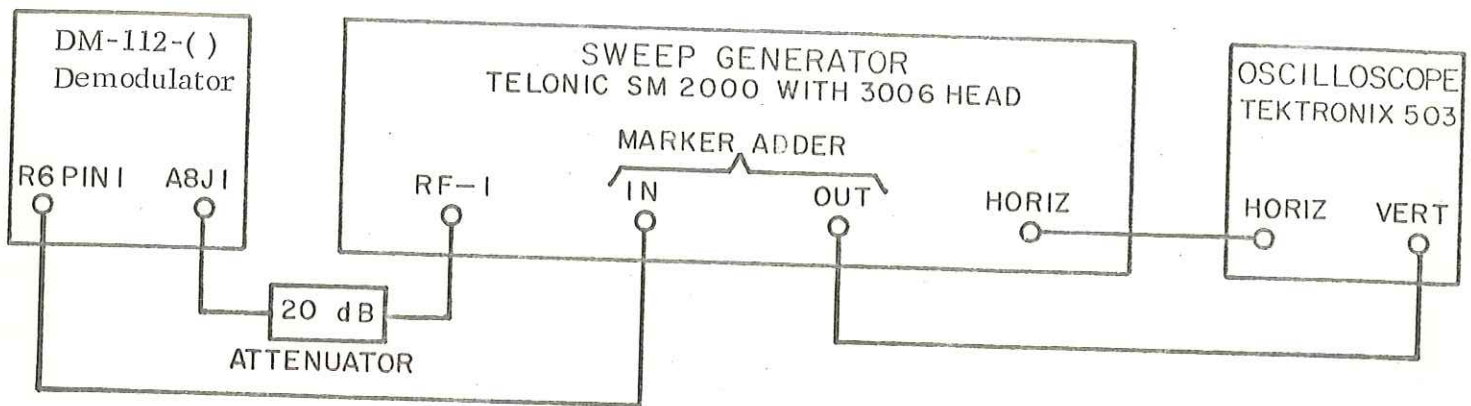

Figure 4-10. Test Setup, 21.4 MHz IF Amplifier Alignment (A8), 100 kHz BW
- (1) Connect the equipment as shown in Figure 4-10.